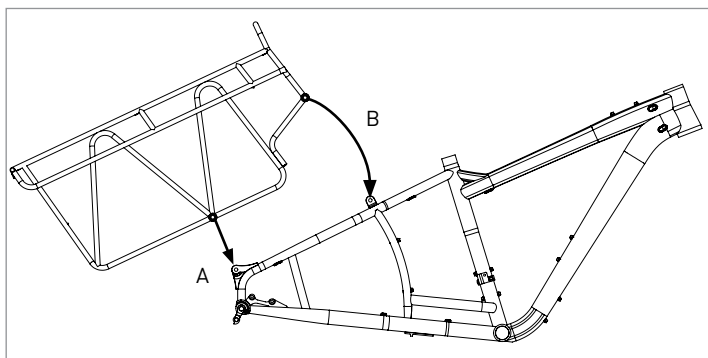

Figure 1
1. Rest the rear/lower mounting hoods of the rack on the catches of the frame mounting tabs (Fig. 1, Step A).
2. Rotate the rack forward and down until the upper mounting hoods line up with the upper frame mounting tabs (Fig. 1, Step B).